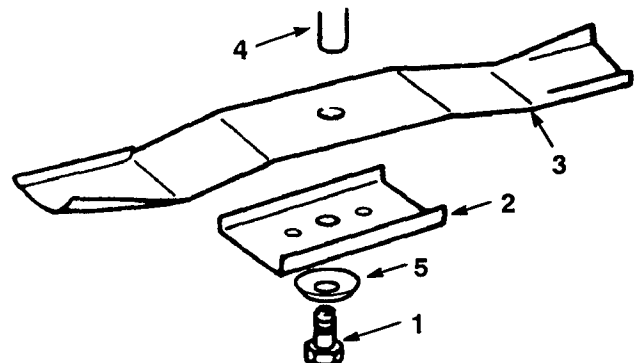

Figure 35
3. Remove the bolt (5/8" wrench), curved washer, retainer and blade (Fig. 35). A block of wood may be wedged between the blade and the mower to lock the blade when you are removing the bolt.
1. Install the blade, blade retainer, curved washer (cupped side toward blade), and the blade bolt (Fig. 35).